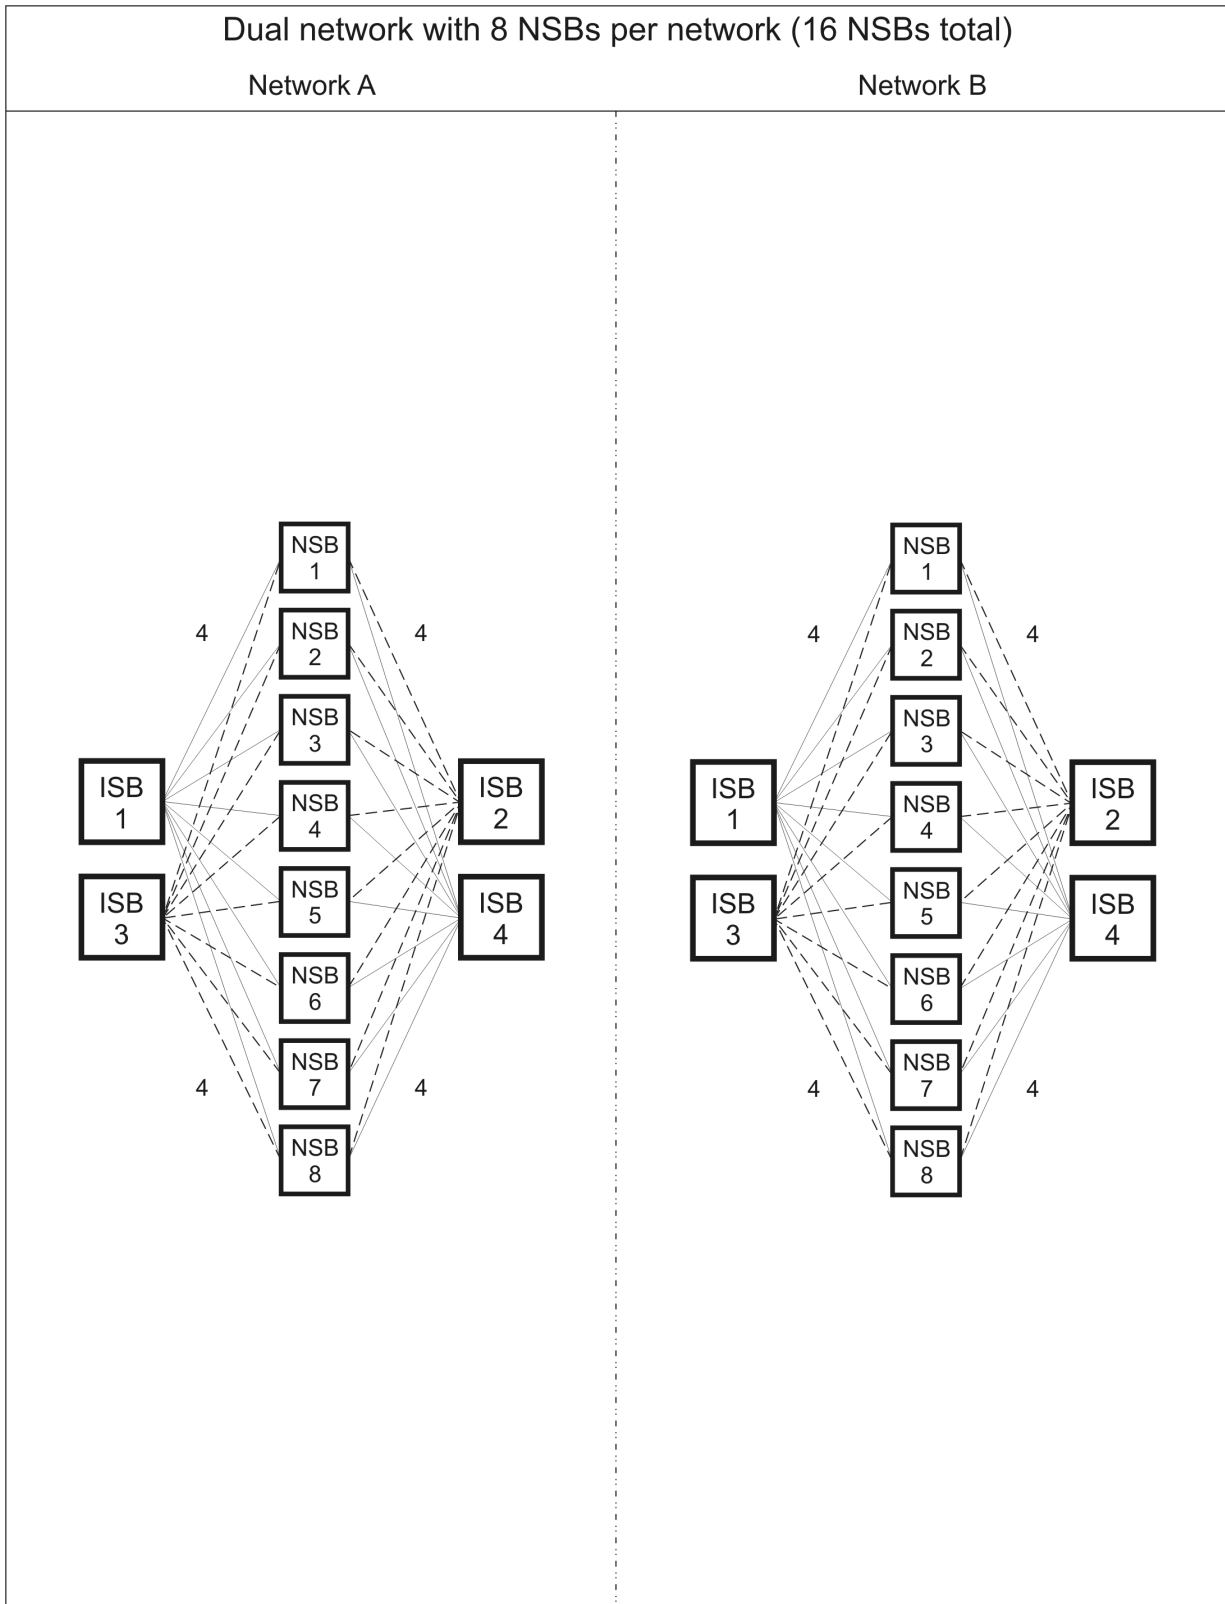

Figure 6. Cable routing overview for a dual network with four ISBs per network
Figure 6 on page 10 provides an overview of the server-to-switch cable layout for a two network configuration having four ISBs, eight NSBs, and 256 links. Two network configurations with four, five, six, and seven NSBs per network are not illustrated. Those networks also require four ISBs and have a similar server-to-switch cable configuration. However, those networks would require fewer server-to-switch cables for each ISB.
1. Figure 6 shows a typical layout for dual networks having four ISBs per network.